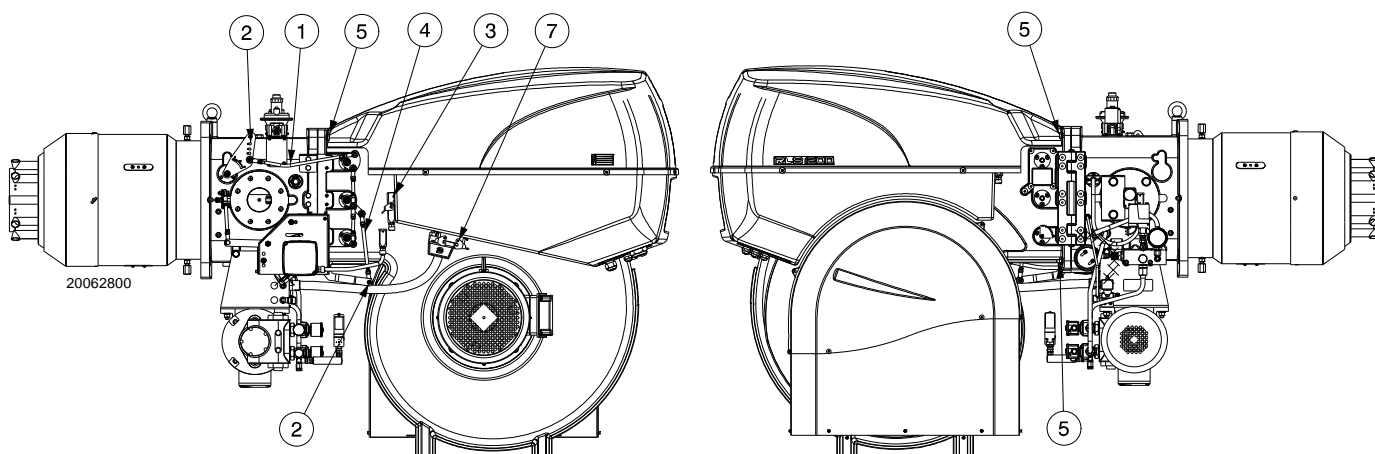

Fig. 45
- Remove the tie-rods 1) and 4)(Fig. 45) of the head movement and damper opening lever, loosening nut 2);